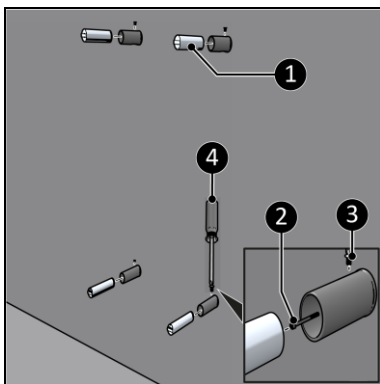

Figure 8
7. Screw the four outer wall brackets with self-tapping screws (Figure 8, pos. 2) in to the four plugs.
8. Attach the four inner wall brackets (Figure 8, pos. 1) to the outer wall brackets with small screws (Figure 8, pos. 3) using a Phillips screwdriver (Figure 8, pos. 4).